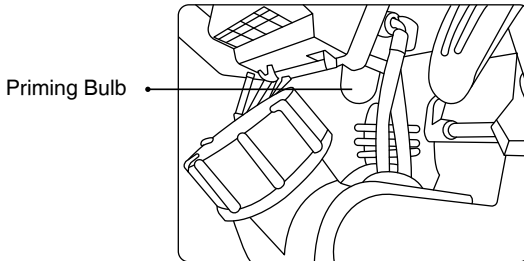

Figure 4
- 1- Before first starting of the new machine, repeat press the transparent priming bulb (See Figure 4) to fully fill the Carburetor with fuel.